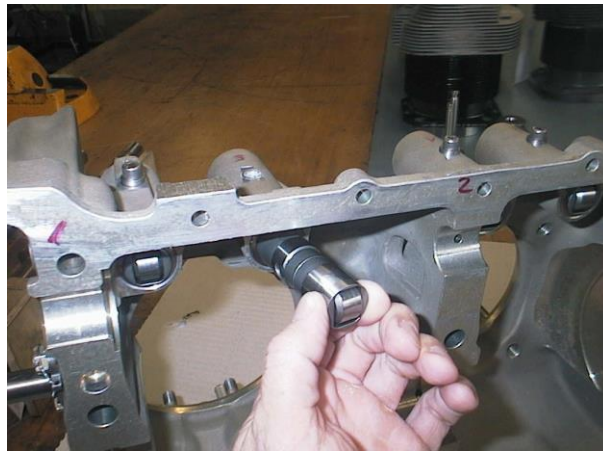

Figure 2: Installation of the Lifter Assembly into the Crankcase
- 3.2.1 Insert the roller lifter into the lifter bore and ensure a continuous and unobstructed travel throughout the length of the bore. If an interference or obstruction due to a burr is present, remove with fine grit sandpaper, scotchbrite®, or sharp deburring tool. Ensure minimal material removal. See Figure 2 below.